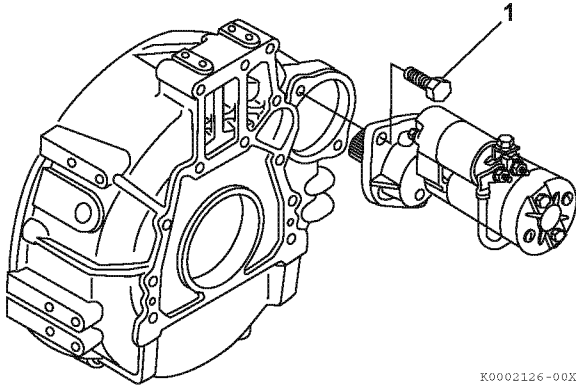

Figure 10-38
(Figure 10-38, (1)). Tighten the bolts to specification. *See Tightening Torques for Standard Bolts and Nuts on page 4-25.*